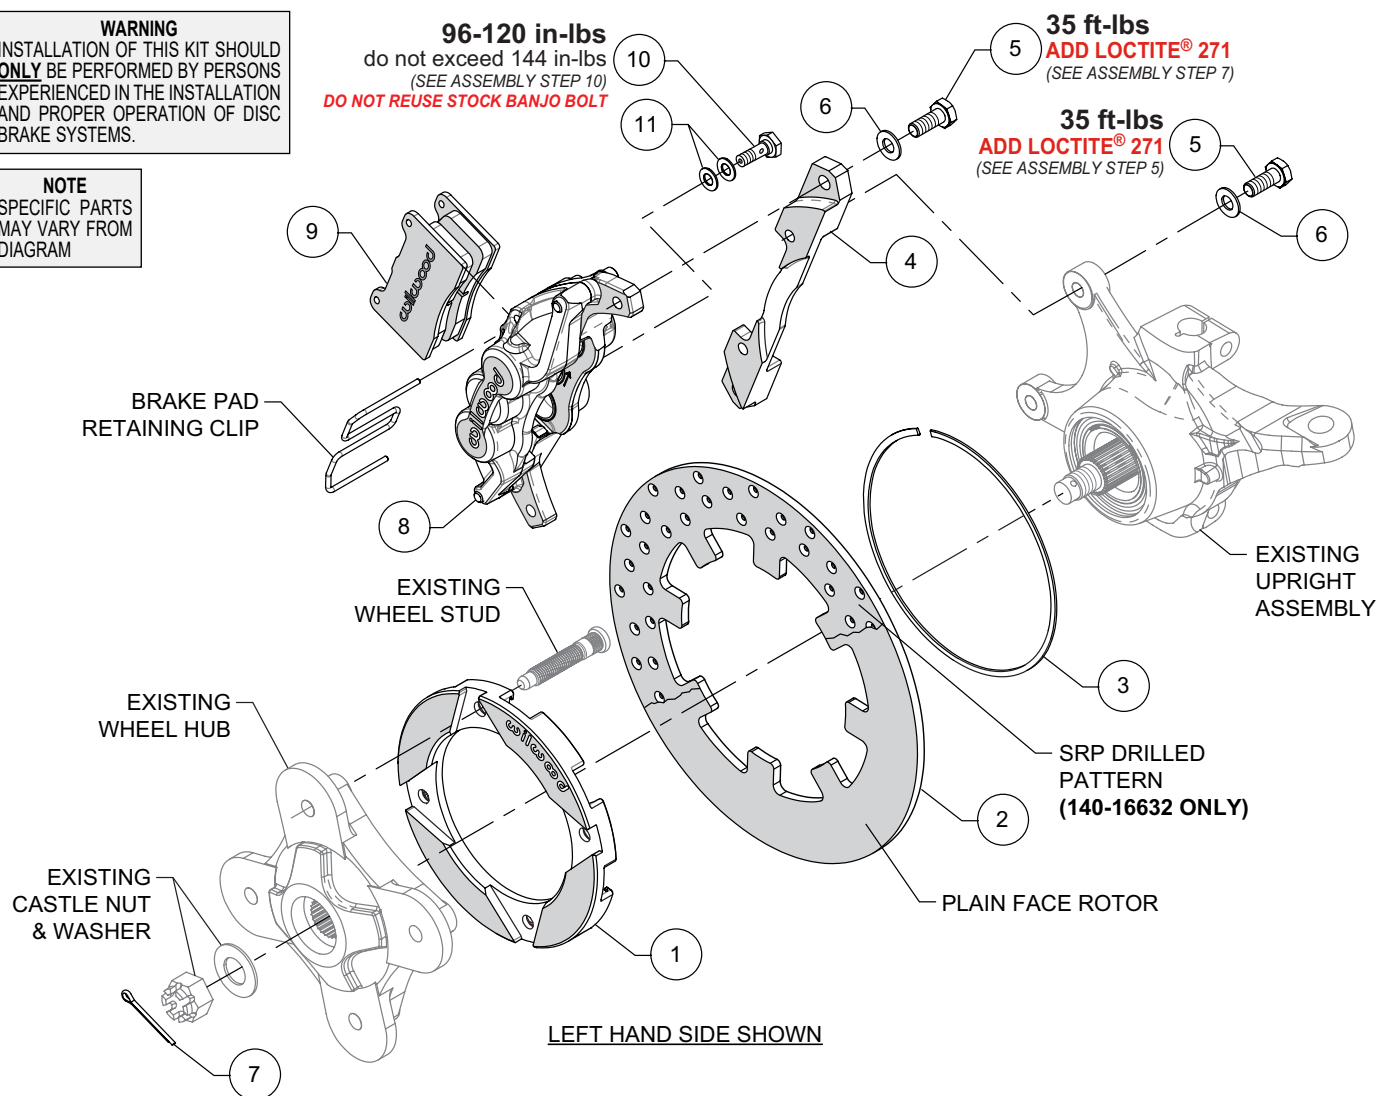

Figure 1. Typical Installation Configuration
NOTE: Numbers in parenthesis refer to the parts list and Figure 1 on the preceding pages.
STEP 2 Place the existing OEM wheel hub face down and position the rotor adapter (1) onto the wheel hub as shown in Photo 1. **NOTE:** The existing wheel hub must be free of dirt and debris or excessive rotor run out may result. Press the OEM wheel studs back in through the rotor adapter and OEM wheel hub.
STEP 3 Position the rotor (2) onto the rotor adapter (1), making sure the rotor lugs fit into the recesses of the rotor adapter, as shown in Photo 2.
STEP 4 Secure rotor to the rotor adapter using the snap ring (3) by simultaneously pushing down on the rotor and installing the ring into the groove in the rotor adapter, as shown in Photos 3 and 4. Carefully inspect snap ring to ensure complete engagement in the groove.
STEP 5 Orient the caliper mounting bracket (4), as shown in Figure 1 and Photos 5 and 6. Install using bolts (5) and washers (6). Apply red Loctite® 271 to the bolt threads and torque to value shown in Figure 1.
STEP 7 Secure the caliper (8) to mounting bracket (4) using bolts (5) and washers (6), Photos 9 and 10. Apply red *Loctite*® 271 to the threads, and torque to value shown in Figure 1.
STEP 8 Remove the pad retainer clip from the caliper (8). Insert the brake pads (9) into the caliper with the friction material facing the rotor, as shown in Photo 11. Reinstall the pad retainer clip, Photo 12.
STEP 10 Attach brake line to caliper. Orient OEM brake line as shown in Photo 13 and connect to caliper using banjo bolt (10) and crush washers (11). Do not use lubricant or thread sealant on banjo bolt (10). Torque to minimum value shown in Figure 1. Check for leakage, increasing torque only to stop leakage without exceeding maximum specification. Replace crush washers and banjo bolt whenever reassembly is required. **Ensure hoses are routed to prevent contact with moving suspension, brake or wheel components.**